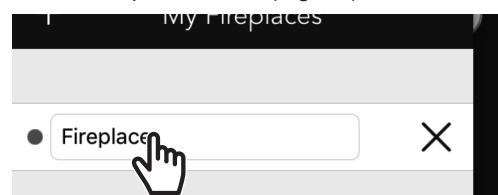

Fig. 12
- You can edit the name of your fireplace by holding down on the fireplace name. (Fig. 12)